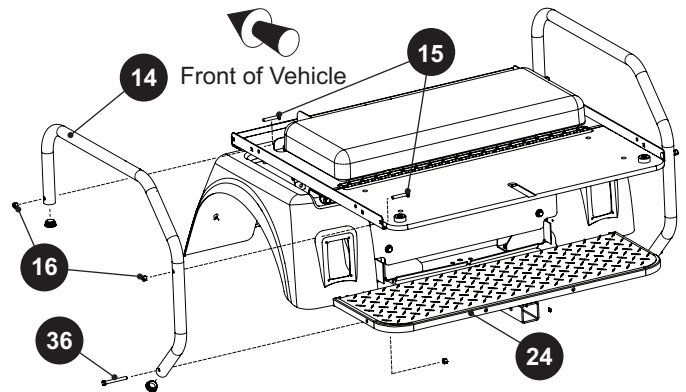

Fig. 2 Arm Rest Removal
- Remove the two bolts (15) and lock nuts (16) securing the armrest (14) to the seat frame (Ref. Fig. 2).
- Remove the bolts (36) and lock nuts (16) securing the armrest (14) to the footrest (24).
- Remove the armrests (14) from the rear seat (Ref. Fig. 2).